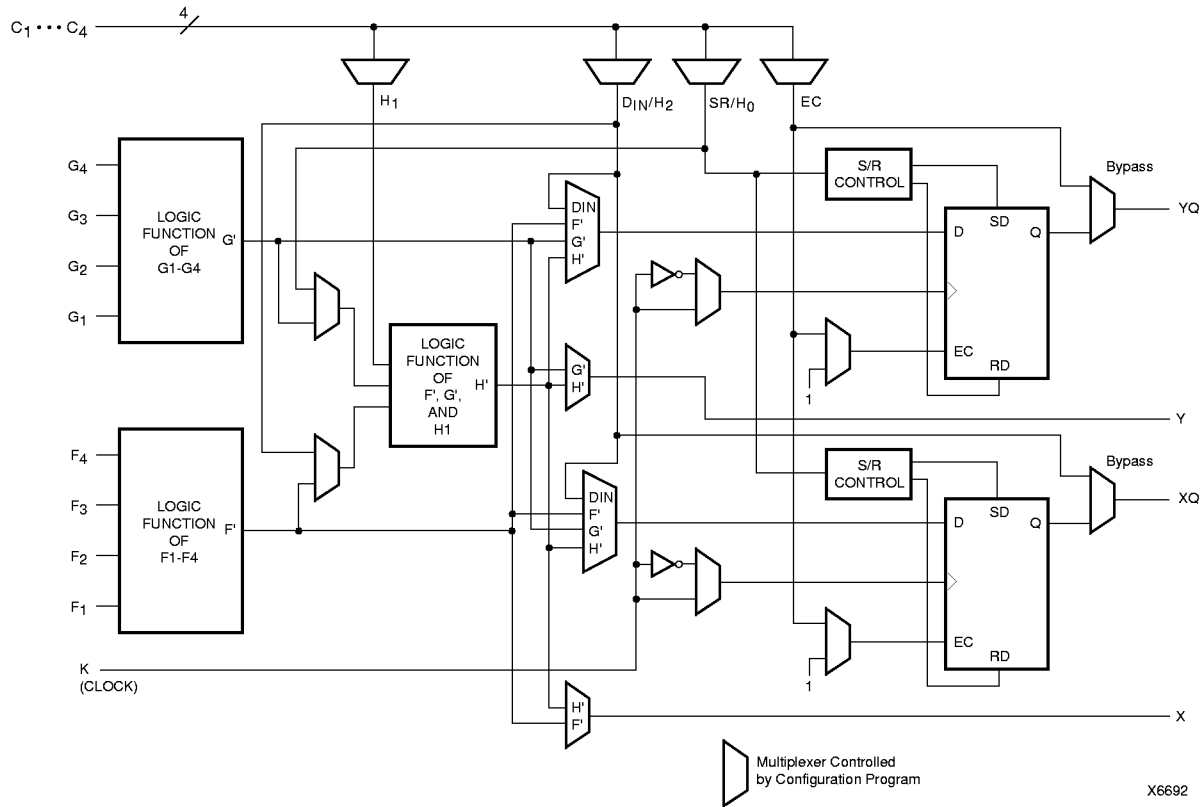

Figure 1: Simplified Block Diagram of XC4000 Series CLB (RAM and Carry Logic functions not shown)
Configurable Logic Blocks implement most of the logic in an FPGA. The principal CLB elements are shown in Figure 1. Two 4-input function generators (F and G) offer unrestricted versatility. Most combinatorial logic functions need four or fewer inputs. However, a third function generator (H) is provided. The H function generator has three inputs. Either zero, one, or two of these inputs can be the outputs of F and G; the other input(s) are from outside the CLB. The CLB can, therefore, implement certain functions of up to nine variables, like parity check or expandable-identity comparison of two sets of four inputs.
A separate Global Set/Reset line (not shown in Figure 1) sets or clears each storage element during power-up, reconfiguration, or when a dedicated Reset net is driven active. This global net (GSR) does not compete with other routing resources; it uses a dedicated distribution network.
Two fast feed-through paths are available, as shown in Figure 1. A two-to-one multiplexer on each of the XQ and YQ outputs selects between a storage element output and any of the control inputs. This bypass is sometimes used by the automated router to repower internal signals.
Multiplexers in the CLB map the four control inputs (C1 - C4 in Figure 1) into the four internal control signals (H1, DIN/H2, SR/H0, and EC). Any of these inputs can drive any of the four internal control signals.